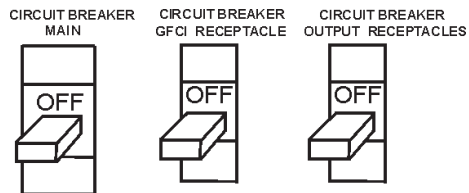

Figure 52. Main, GFCI and Load circuit breakers
1. Switch both the MAIN, GFCI and LOAD circuit breakers (Figure 52) to the “OFF” position.